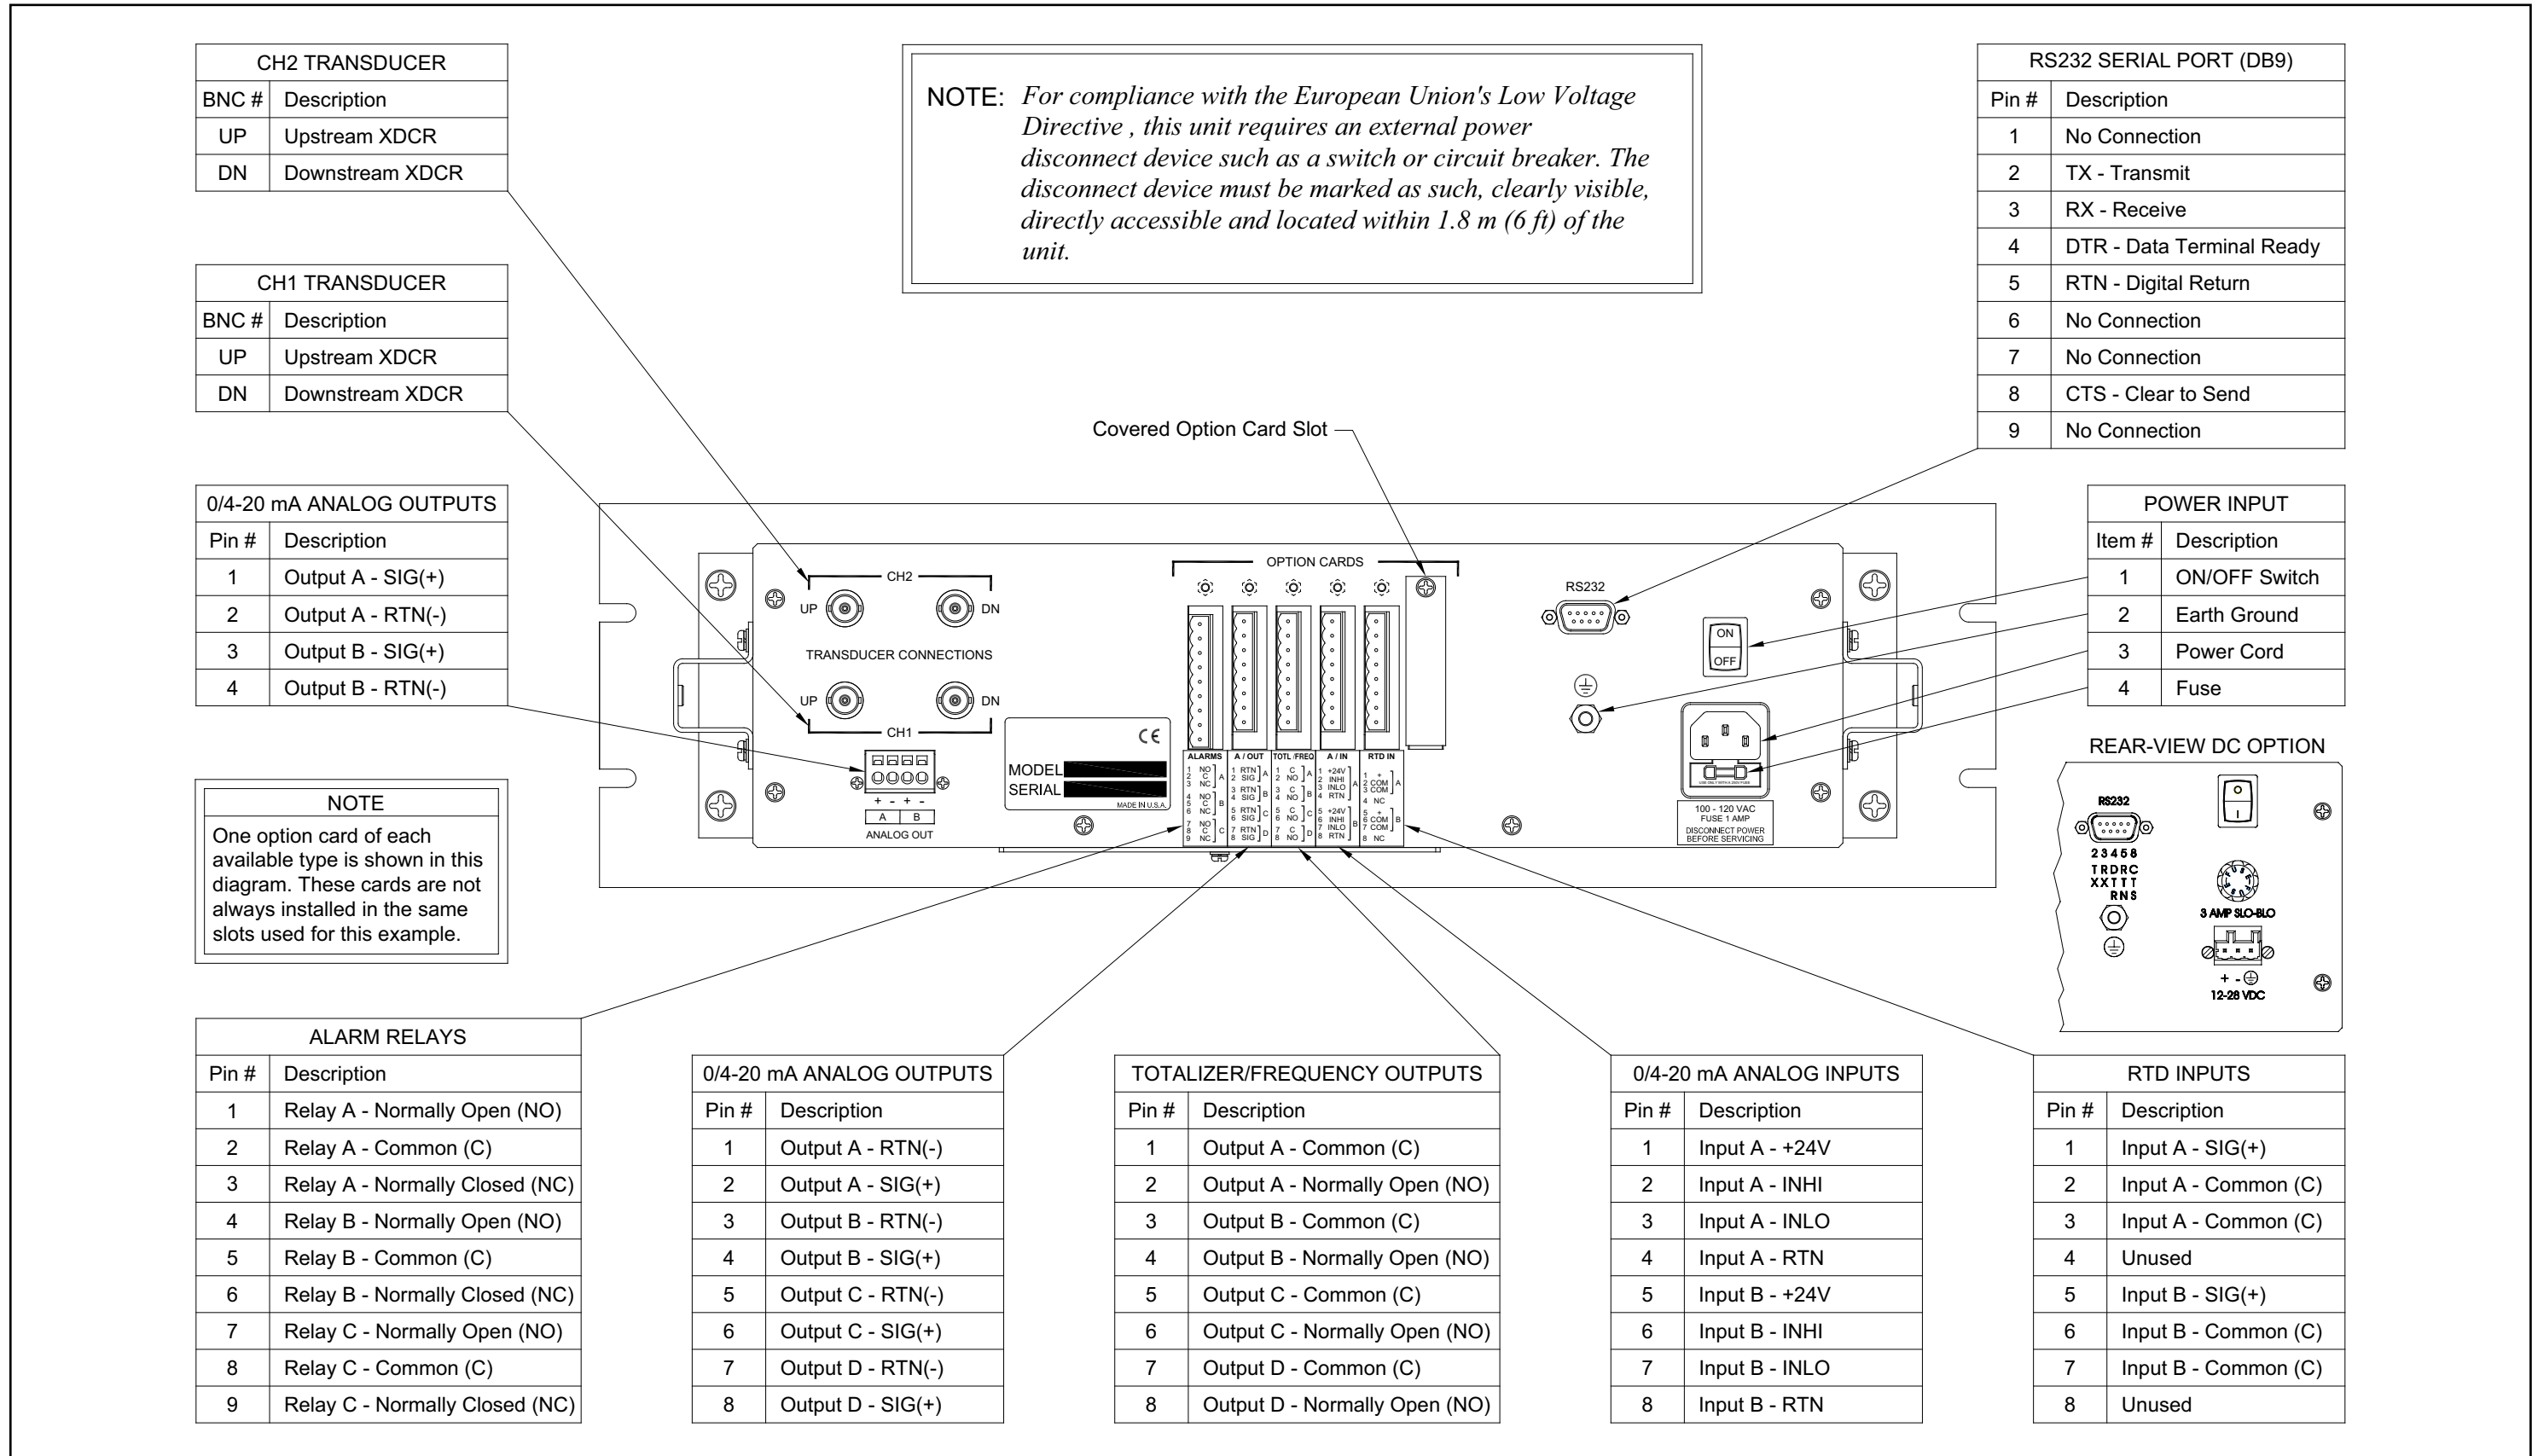

Figure 16: Model GM868 Rack Mount Enclosure - Wiring Diagram
The rack mount Model GM868 requires exactly the same electrical connections as the standard version. However, the locations and type of connectors used for the various components are different. Refer to *Figure 16 on page 52* and complete the following steps:
- a. Purchase or prepare a suitable serial cable. This cable should have a standard female DB9 connector, wired as shown in **Figure 16 on page 52**, for connection to the rear panel of the Model GM868. The other end should be as required for the external device.
5. Wire any installed *option cards* using the same procedures described in Chapter 1, *Installation*, of this manual and the pin # assignments shown in *Figure 16 on page 52*.